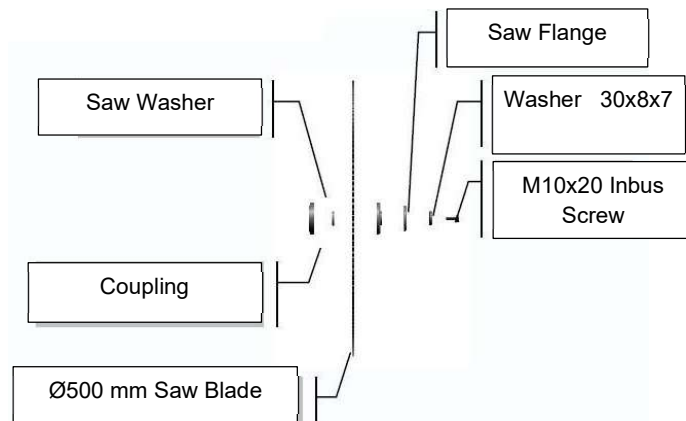

Figure 1: Open The Front Cover.
- 8.1.1. Cut off the machine's electrical and air connection. Open the front cover lock on the chassis. (Figure 1, 2)